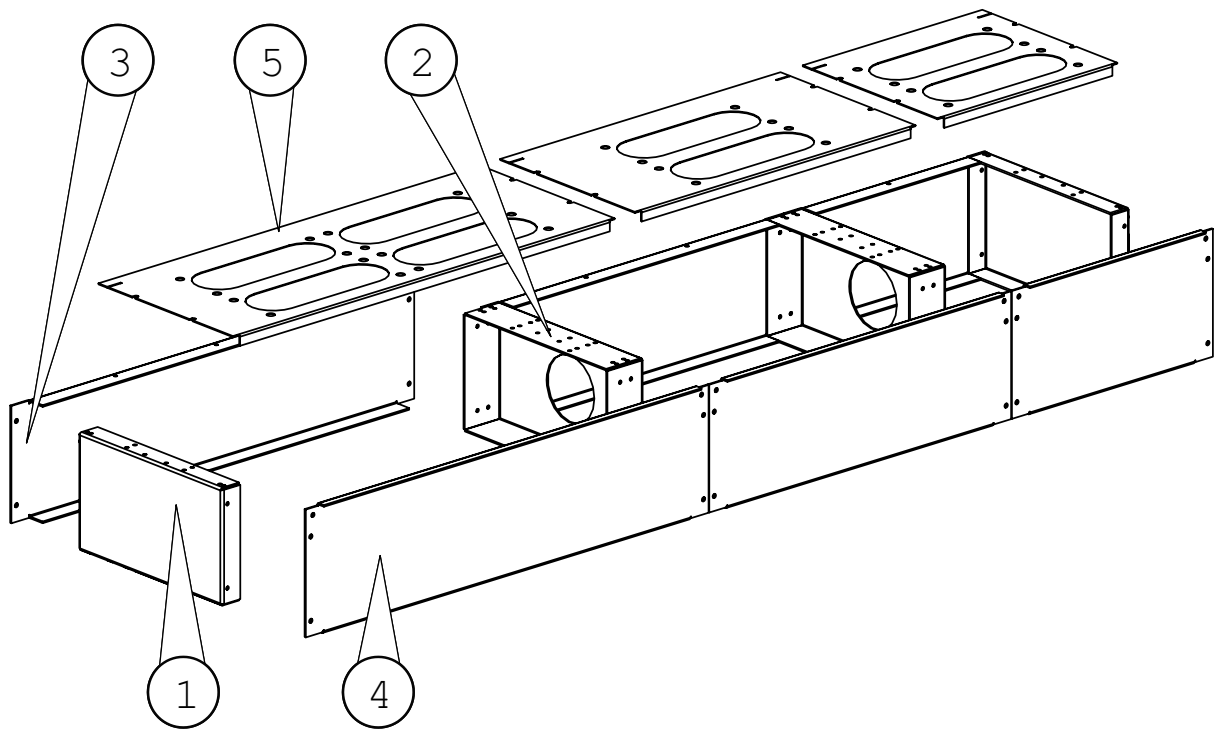

Figure 8.1. F-serie system base assembly.
The assembly of base for the F-serie system is started by joining with screws the back (3), front (4), and side (1) and intermediate plates (2) needed for the base arrangement, base plates joining is shown (5) in Fig 8.1.
If the enclosure center is built up on top of the base line (fig. 8.1.), the lower end is fixed with the base bottom plates instead of the lower end plates (5, fig. 8.1.). By the multi field enclosures the spaces are divided with the installed intermediate supports (7) between the back and front profile (6).